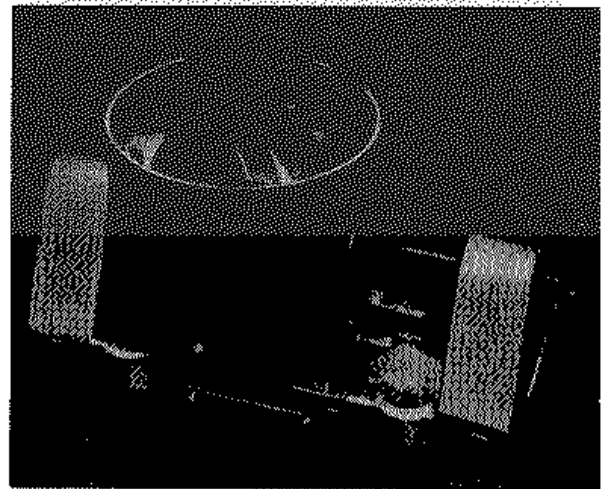

Fig. 5-15 - Carrier In Typical Holding Fixture
16. Place the carrier assembly in a carrier holding fixture, Fig. 5-15, and secure it with the T-handle.